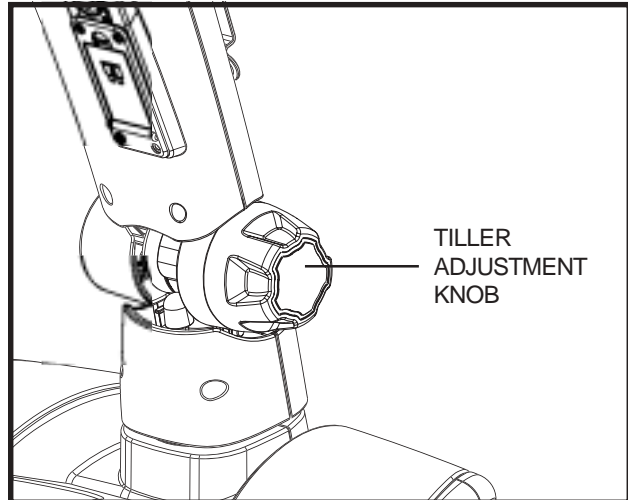

Figure 15. Tiller Adjustment
1. While supporting the tiller, turn the tiller adjustment knob counterclockwise to loosen the tiller. **See figure 15.**